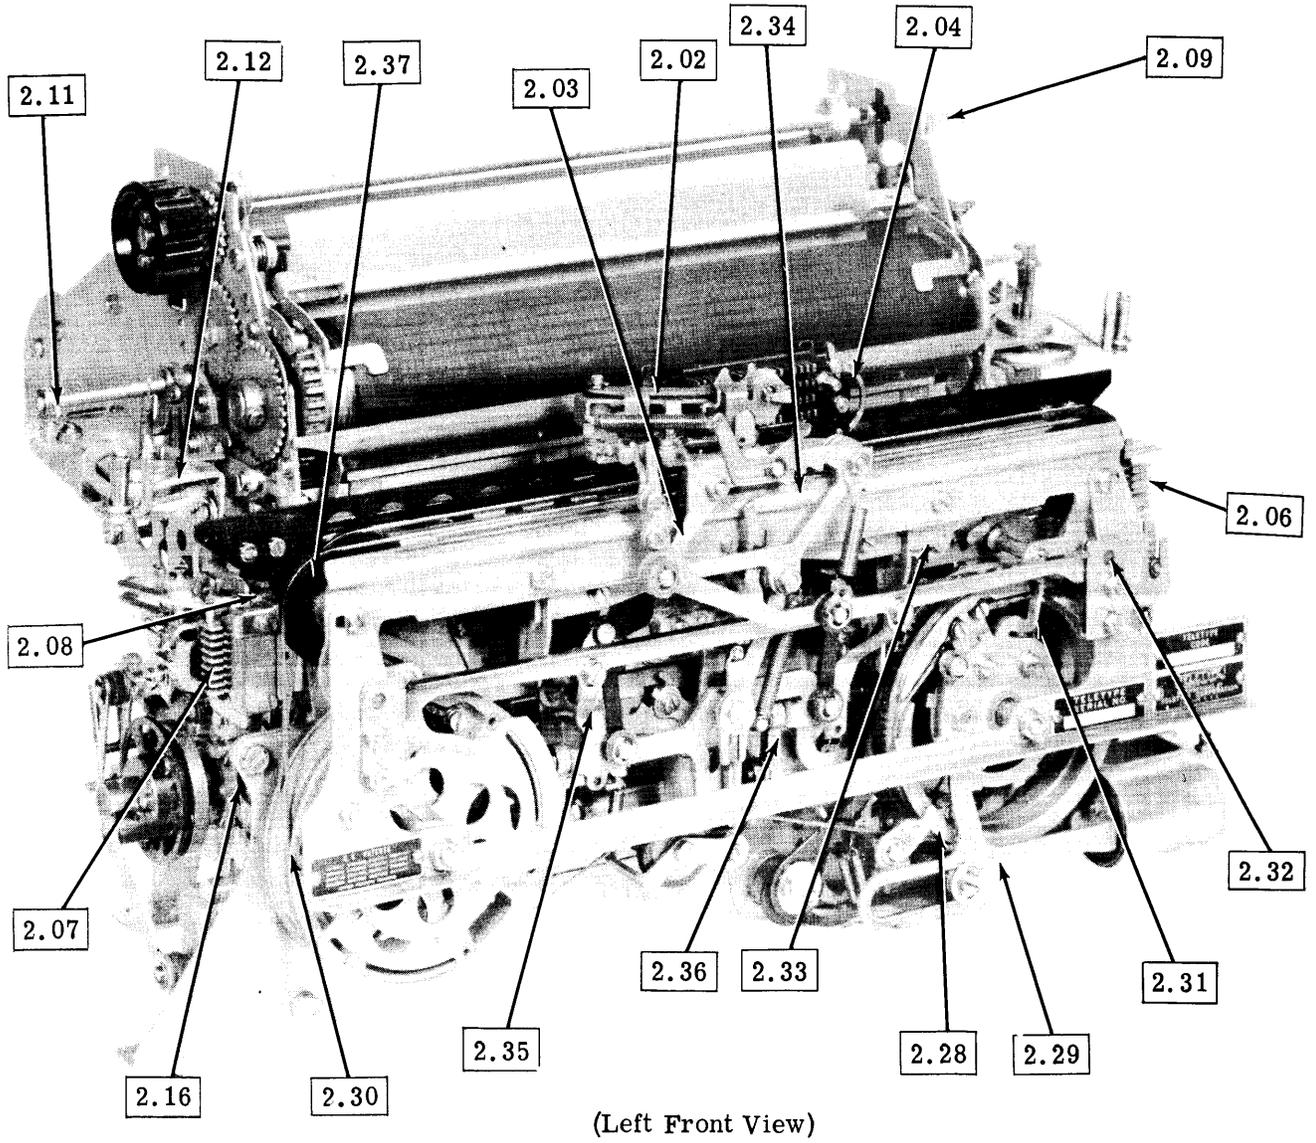

Figure 1 - 35 Typing Unit, Friction Feed
1.02 Lubricate the 35 typing unit as directed in this section. The line drawings indicate points to be lubricated and the type and quantity of lubricant to be used. Figures 1 and 2 illustrate the general areas of lubrication on the friction feed unit and Figure 3 shows the lubrication areas on the sprocket feed unit. Lubricate the typing unit prior to placing it in service. Relubricate after a few weeks to make sure that all points have received proper lubrication. Thereafter, lubricate the typing unit at intervals of 1500 hours or six months, whichever occurs first.